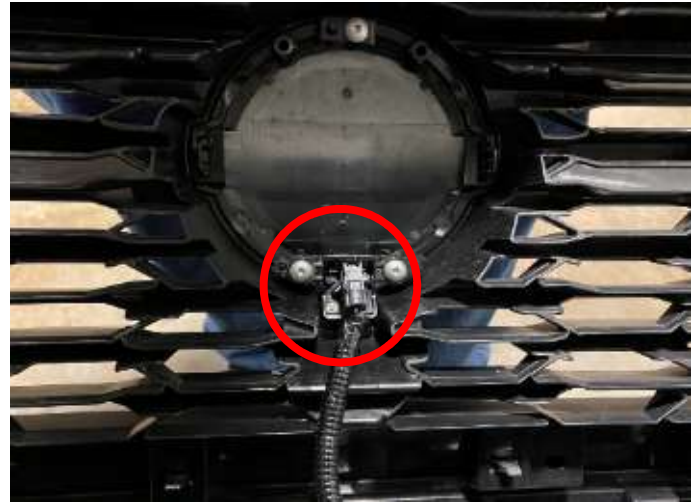

Figure 22
22. If equipped with an Around-View Monitor (AVM), connect the wiring harness. (Figure 22)